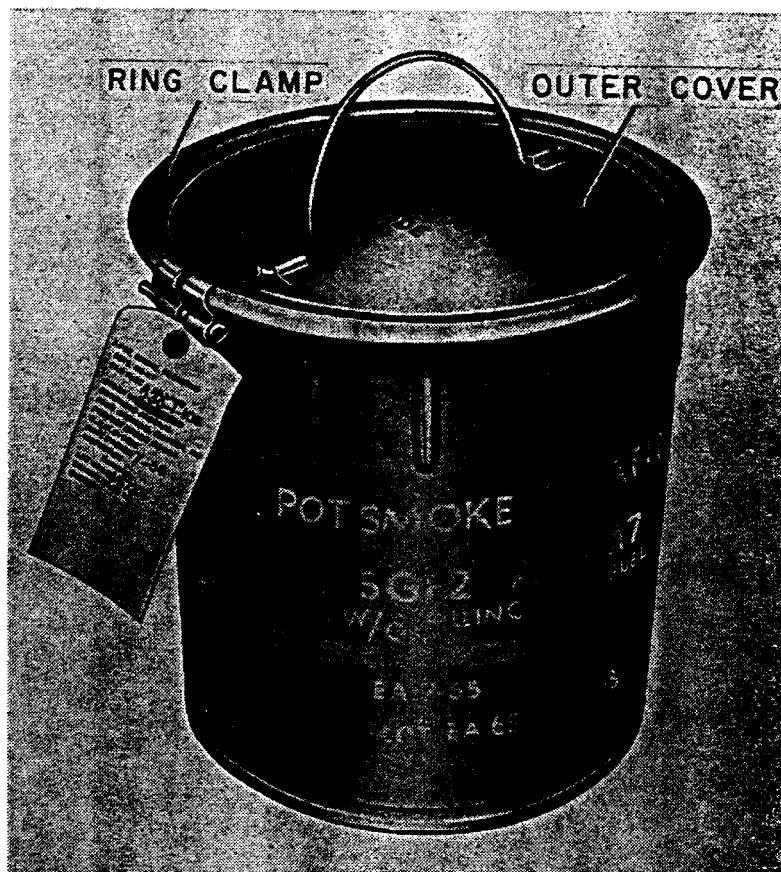

Figure 11. AN-M7 SGF2 floating smoke pot.
a. Body. The body of the AN-M7 floating smoke pot (fig. 11) is a metal container 12 inches in diameter by 13 inches high. The upper portion of the body is ribbed; the base of the body is slightly tapered to facilitate stacking in storage. An outer cover with a carrying handle attached is fastened to the pot by a ring clamp. A dish-shaped inner cover (figs. 12 and 3, fig. 13) with a carrying handle attached